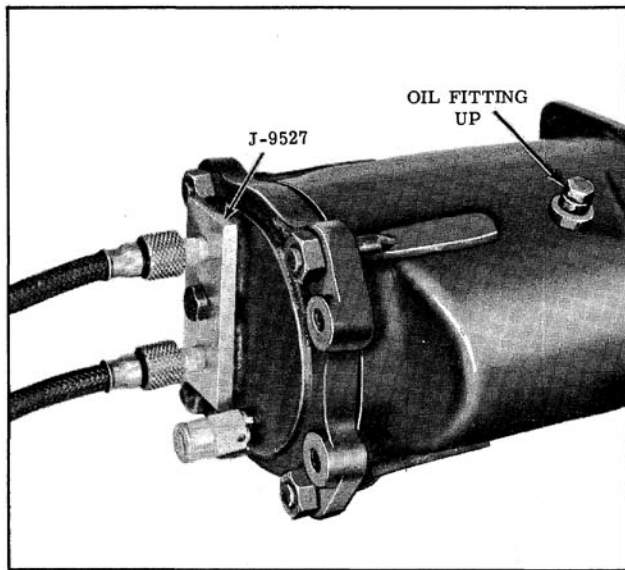

Fig. 14-105 Leak Testing Compressor
6. With Tool J-9527 installed on compressor (Fig. 14-105), leak test the compressor as follows: